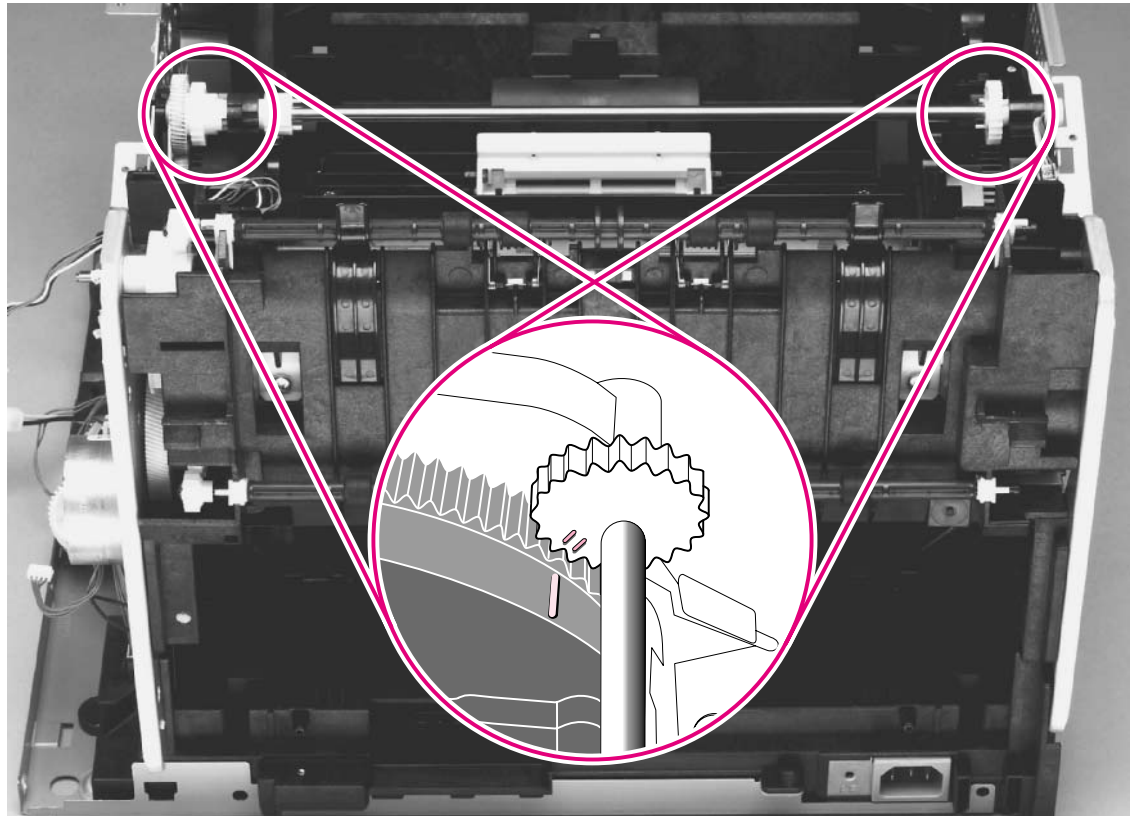

Figure 95. Reinstalling the print-cartridge carousel
- 2 Examine the gears: two marks on the smaller gear should line up with the single mark on the larger gear (see the detail of the gears in figure 95).